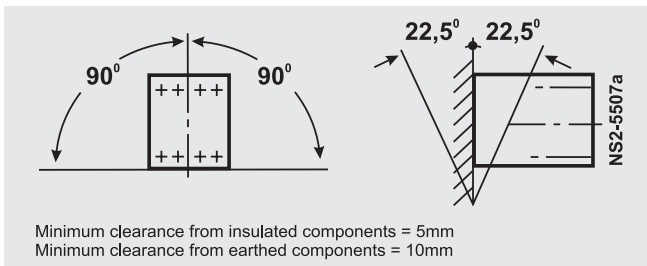

Fig. 2
1. Permitted mounting positions are indicated in Fig.2